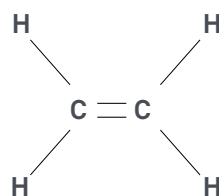

Figure 6 The chemical structure of ethylene
- Ethylene is written chemically as C^2H_4 i.e. an ethylene molecule consists of 2 Carbon atoms and 4 Hydrogen atoms. (Refer to figure 6.)